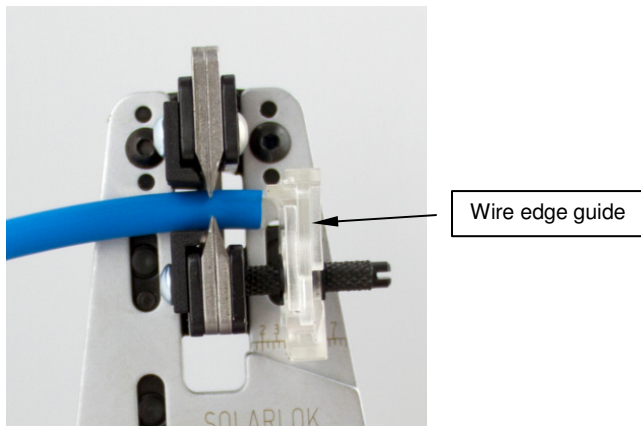

Figure 3
2. Insert the wire and push it against the wire stop (see Figure 3).
3. Close the hand tool. Blades 5...8 move towards the wire to be stripped, the insulation is cut and stripped (see Figure 3).